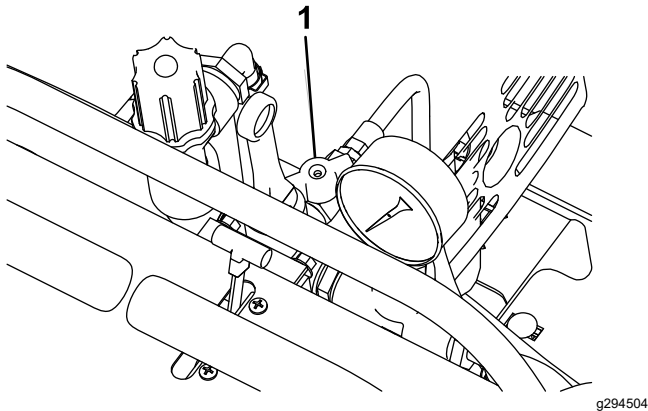

Figure 23
3. Turn the spray gun valve to the OPEN position (Figure 23).